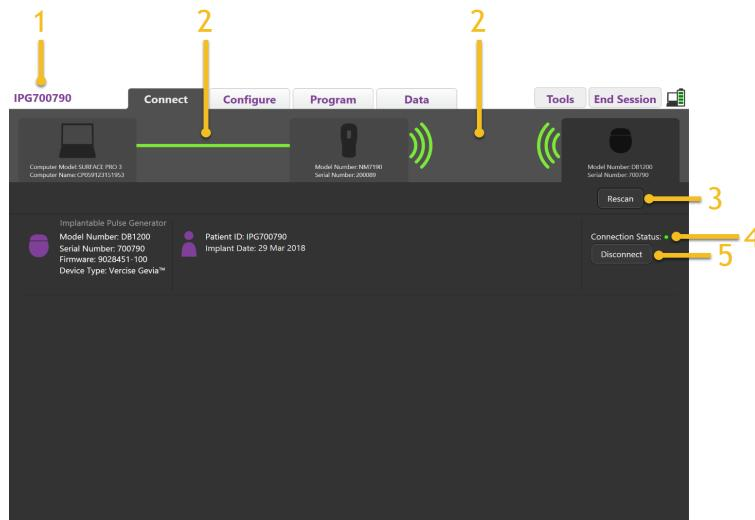

Figure 4. Connection Established Between CP and Stimulator
5. Once a connection has been established between the CP and the Stimulator, the following screen will appear (Figure 4).